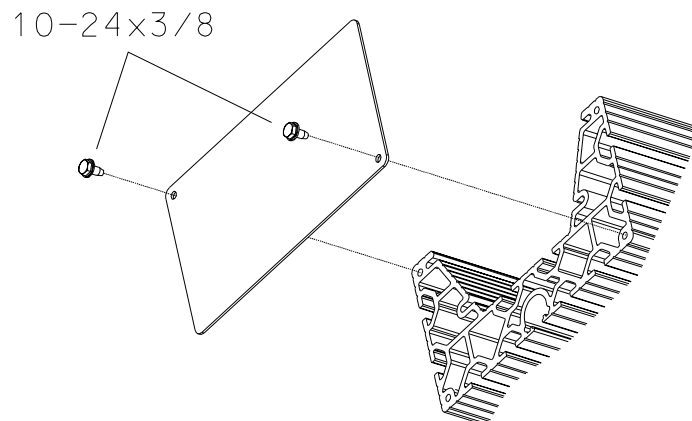

Figure 8
4. Install the top cover plate onto the support column using two (2) 10-24x3/8 self tap screws. Requires a 5/16 socket or nut driver. See Figure 8.